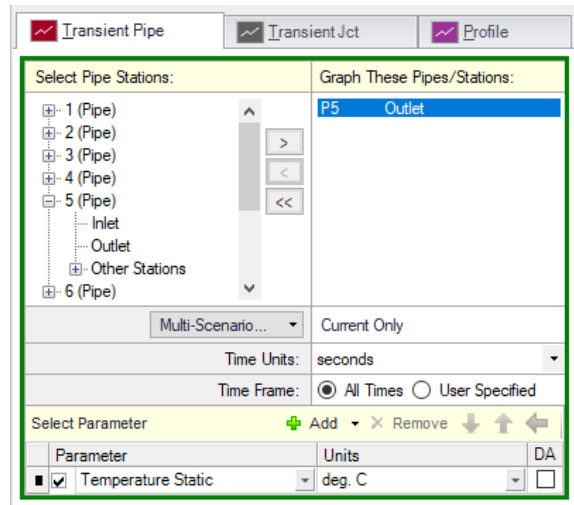

Figure 8: Graph Parameters for Combustion Basket #1 Inlet Pipe
1. From the Graph Control tab on the Quick Access Panel, select the Transient Pipe tab as shown in Figure 8